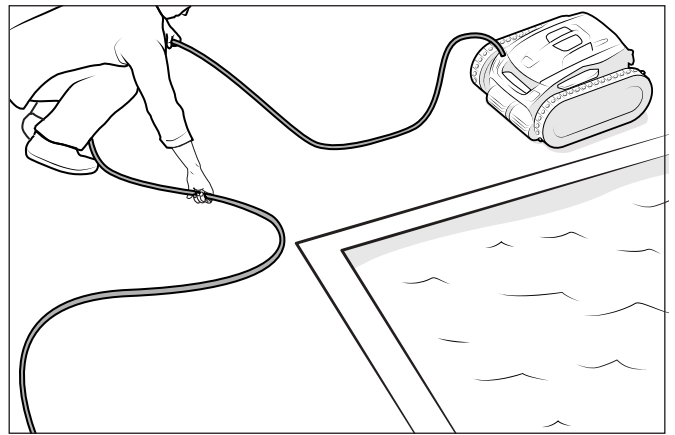

Figure 12. Untangle
4. Remove the cleaner from the pool and untangle all kinks and coils in the power cable (Figure 12). Start at the cleaner head. Lay the cable in the sun to loosen any tangling memory.